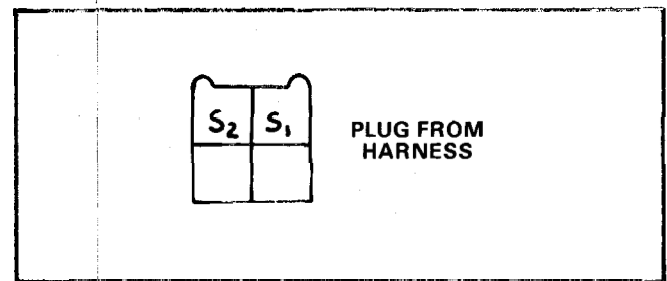

Figure 152
4. Sensor circuit continuity on the T2500 and T3000 is measured at **S1** and **S2** as shown in Figure 152.